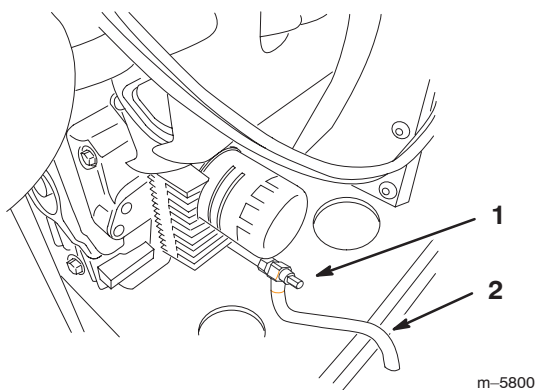

Figure 37
5. Place the hose onto oil drain valve to direct oil into drain pan (Fig. 37).
6. Place a pan below the drain hose. Rotate the oil drain valve to allow the oil to drain (Fig. 37).
8. Remove the drain hose. Place the hose in a notable place for future use (Fig. 37).